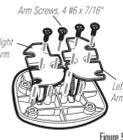

Figure 5
1. Insert the mount arms through the base (Figure 5).